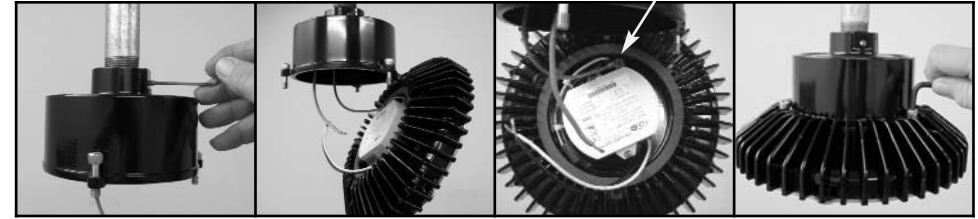

FIGURE 2
- Hang the assembly on the hinge of the cover (See Figure 2).